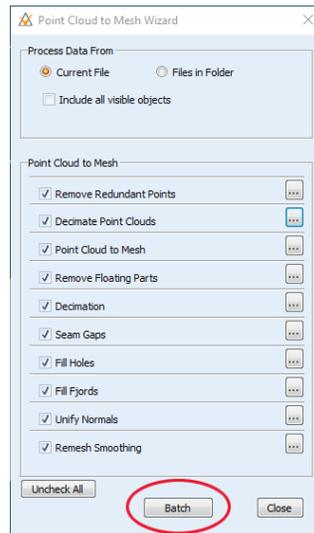

Figure 4.
- When prompted with the Figure 4 options, the defaults will likely work fine. If your mesh does not come out as expected, go back through this process and follow VRMesh's recommendations. For this test piece, only minor changes were necessary.